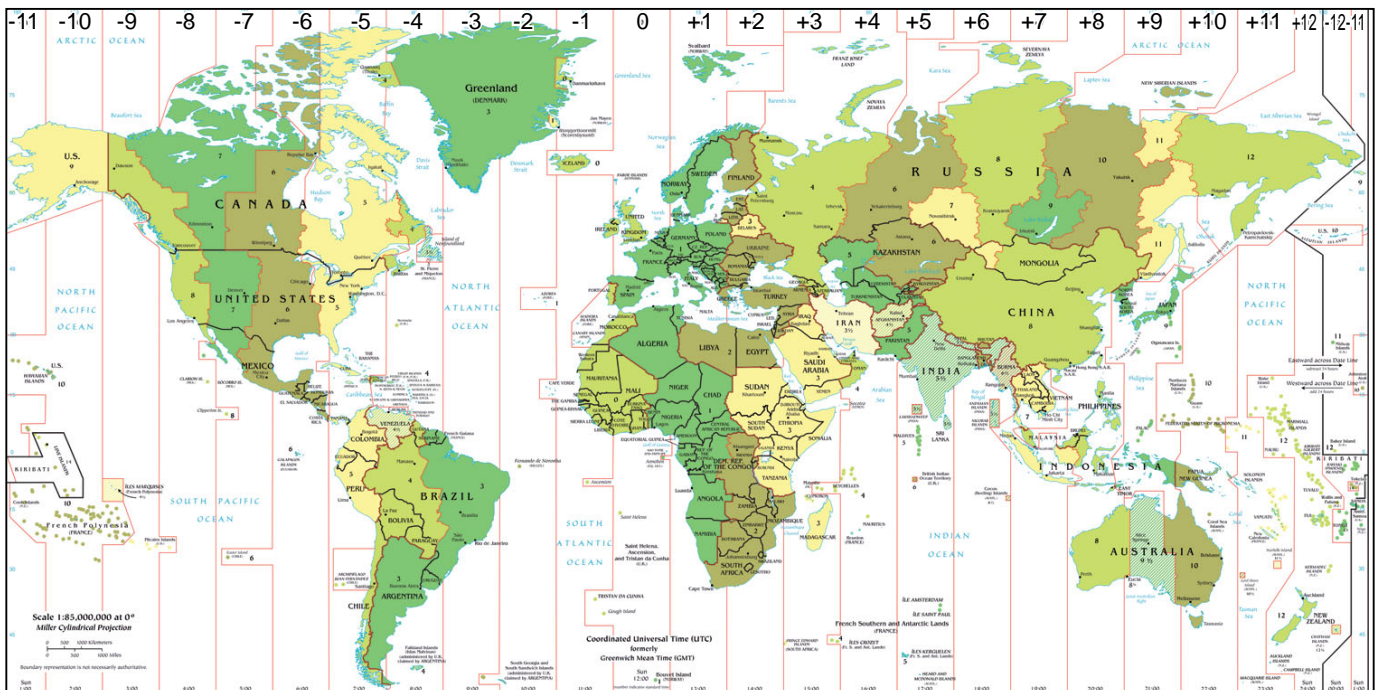

Fig. 25 Time zones
- ▶ Time zone GMT (e.g. +1 in Germany, see Fig. 25)